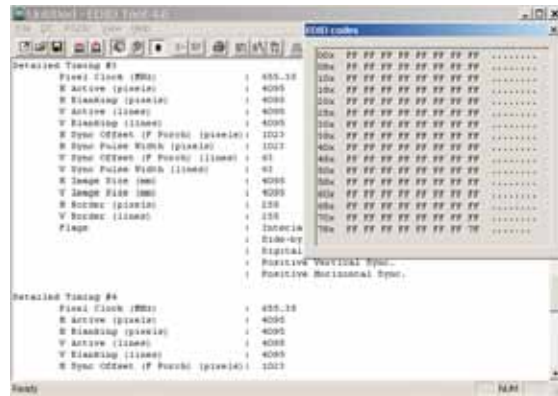

Fig. 13
- Click  icon (Read EDID function) to read DDC EDID data from monitor. The EDID codes will display on screen as shown in Fig. 13.